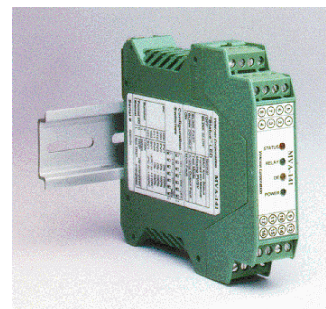

Figure 6 —MultiVariable Analog Interface
The **MultiVariable Analog (MVA)** interface in Figure 6 provides a cost effective way to interface with analog instrumentation while utilizing all the advantages of Honeywell's digitally enhanced (DE) communications.